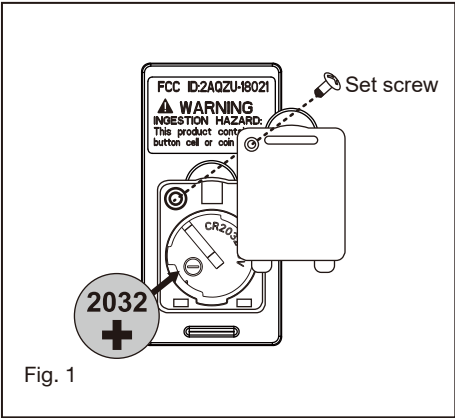

Fig. 1
1. Insert the receiver into the ceiling mounting bracket with the flat side of the receiver facing the ceiling. (Fig. 1) For best performance, make sure the Black Antenna and WIFI Antenna, on the end of the receiver, remains extended and not tangled with any of the electrical wires.
- 1 Remove one of the three screws on the mounting hub located on the fan motor. (Fig. 1)
- 2 While holding the LED assembly under your fan, make the polarized plug connections: (Fig. 1)
- 3 Tuck connections neatly into LED assembly, place the LED assembly to the mounting hub with 3 screws provided. (Fig. 1)
- 4 Raise the light kit cover against the LED assembly and turn clockwise until snug, DO NOT OVERTIGHTEN. (Fig. 1)
- 1 Select a desired location. Use the wall plate to mark the location of the mounting holes. Plastic wall anchors or mounting screws are needed for this application. (Fig. 1)
Remove the panel from the transmitter and then install one 2032 battery (included). You need to use a screwdriver to open or close the battery cover. To prevent damage to transmitter, remove the battery if not use for long periods of time (Fig. 1)